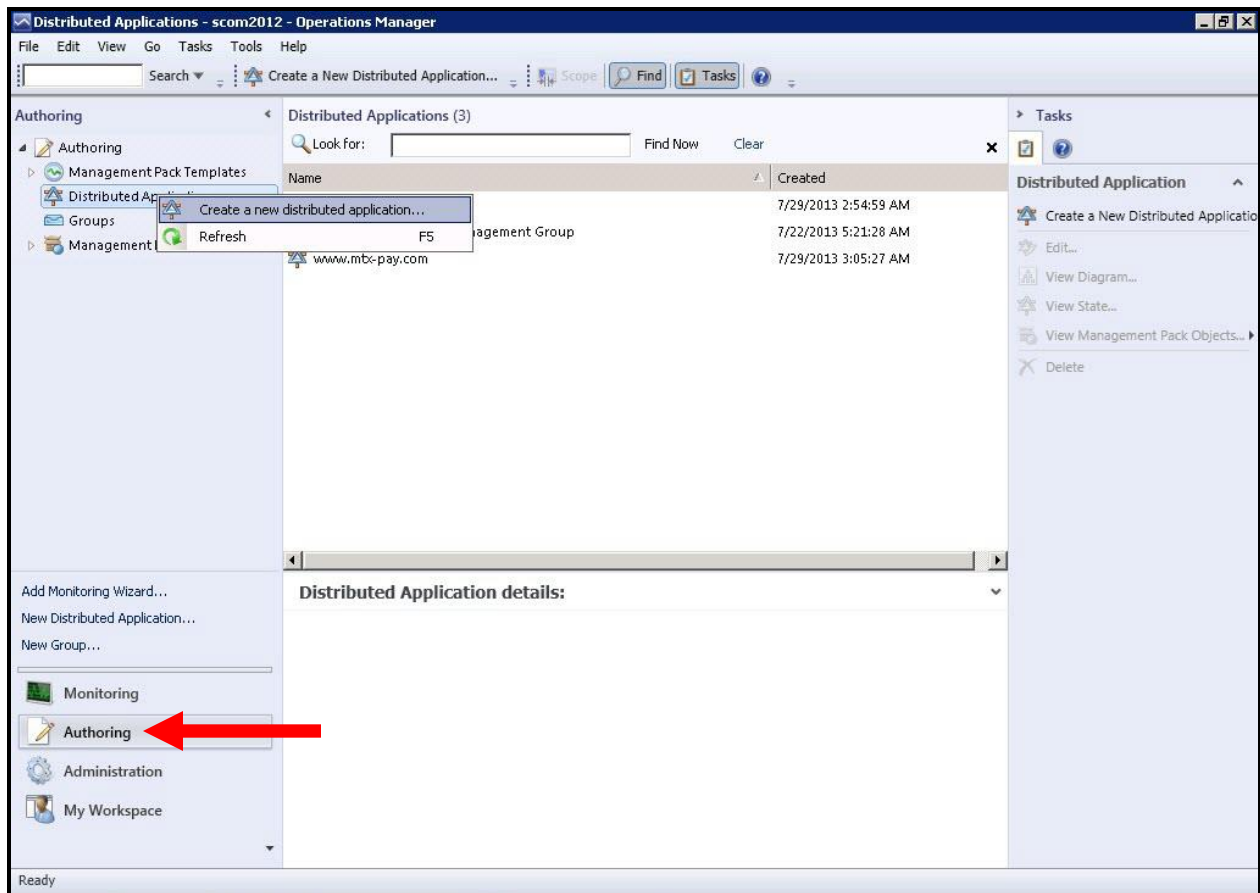

Figure 3.24: Starting Distributed Application Configuration
1. A business service in eG has to be defined as a 'Distributed Application' in SCOM. In other words, the *Infomart* service in our example, will have to be configured as the *Infomart* distributed application in SCOM. This implies that the topology that you built for the *Infomart* service in eG should be built again in SCOM for the *Infomart* distributed application. For this, first, login to the SCOM console. Then, click the **Authoring** tab page depicted by Figure 3.24 below.
2. When the **Authoring** tree appears in the left panel, expand the **Authoring** node in the tree-structure, right-click on the **Distributed Application** sub-node, and pick the **Create a new distributed application** option (see Figure 3.24).